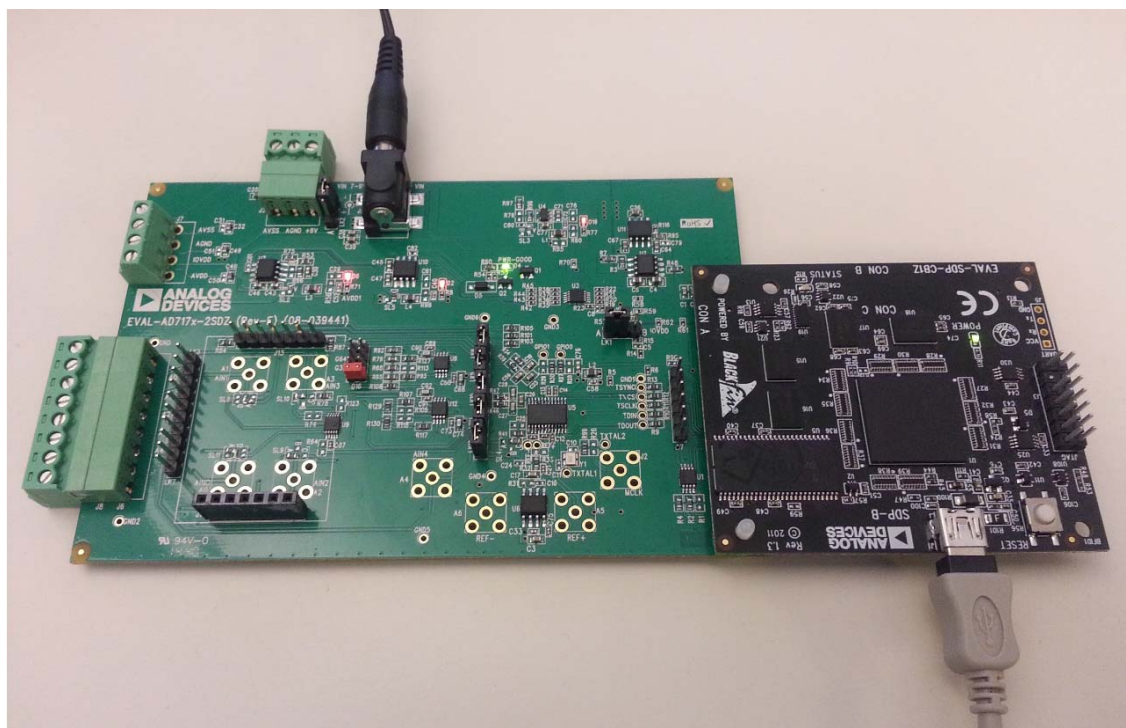

Figure 2. Hardware Configuration, Setting Up the EVAL-AD7172-2SDZ
3. Connect the EVAL-SDP-CB1Z board to the EVAL-AD7172-2SDZ board, as shown in Figure 2.
5. Connect the external 9 V power supply to the J5 connector of the EVAL-AD7172-2SDZ board, as shown in Figure 2. Set LK2 to Position B.